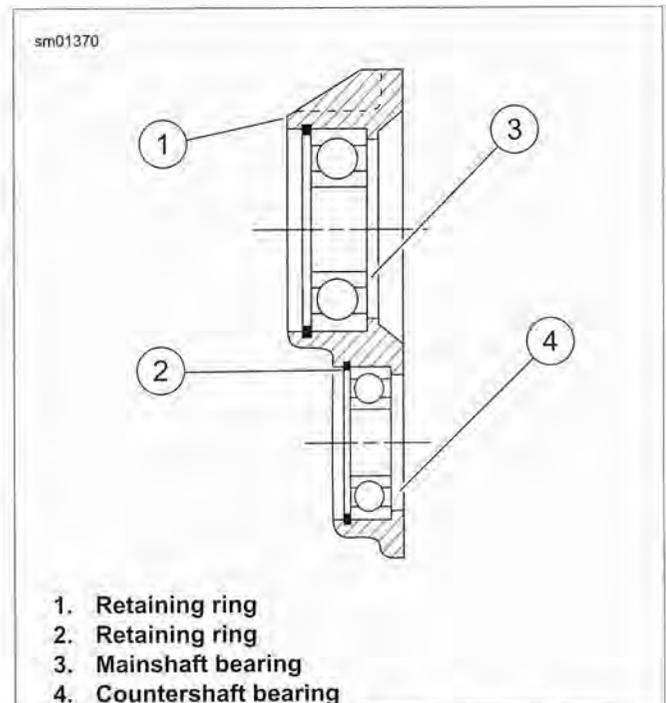

Figure 5-88. Ball Bearing Assembly
4. See Figure 5-88. If bearing replacement is required, remove retaining rings (1, 2) using SNAP-ON SNAP RING PLIERS (Part No. PR-36). Press out bearings (3, 4) from the inside of the crankcase.